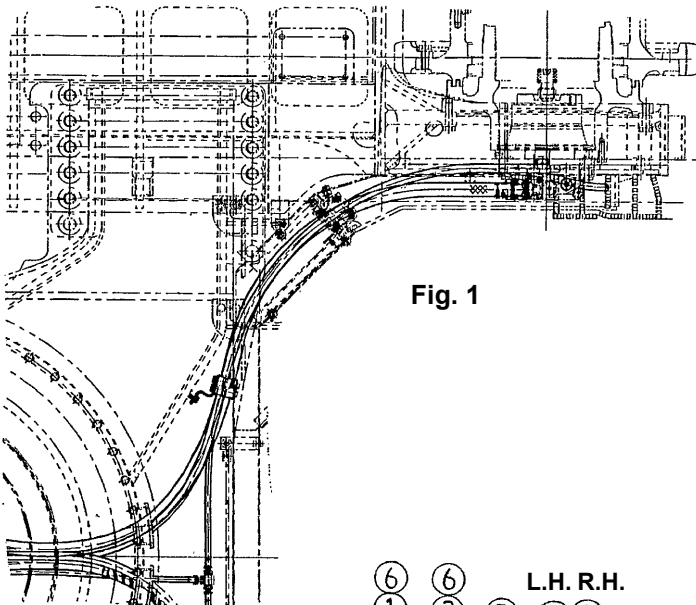

Fig. 1
(1) Arrange the pilot hoses (4) (L.H.), (5) (R.H.) for selecting machine speed and the drain hoses (3) (Figs 1,2 and 3) (2) Arrange the main hoses (1) and (2) on the travel motor side (Figs 1,2 and 3). Use new O-rings (6) out of the loose-supply items and use split flange, bolt and washer out of the travel motor parts.